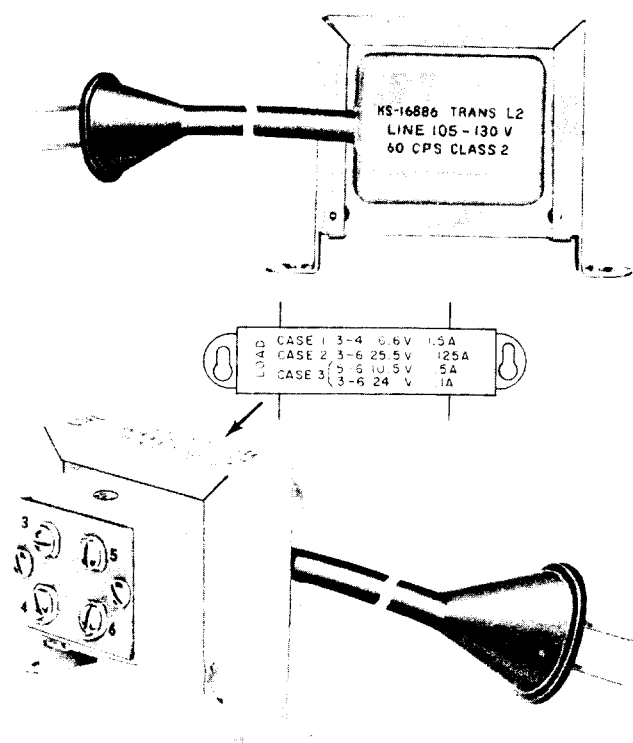

Fig. 8—KS-16886L2 Transformer
- 3.01** The KS-16886L2 transformer (Fig. 8) is primarily intended as the centralized power